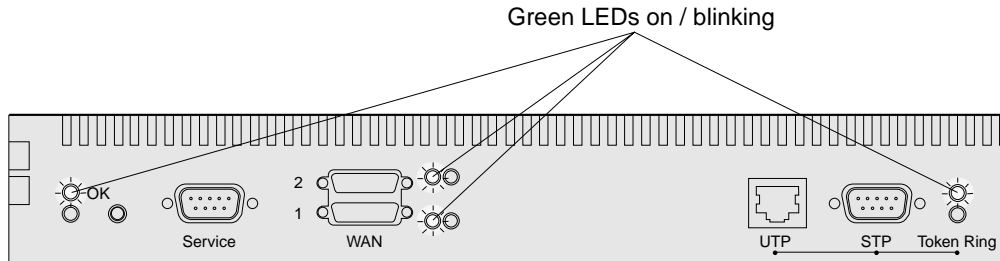

Figure 19. LEDs On or Blinking on Port Side after Successful Boot
As soon as you plug in the IBM 2210, the power-on self-test (POST) begins. During the POST, the LEDs light in various combinations. The POST and boot will require about 1 minute. At the end of the boot, the green LEDs for the system (OK) and for any port that is active should be on or blinking. Figure 19 shows the LED states for a IBM 2210 Model 12T after a successful boot.